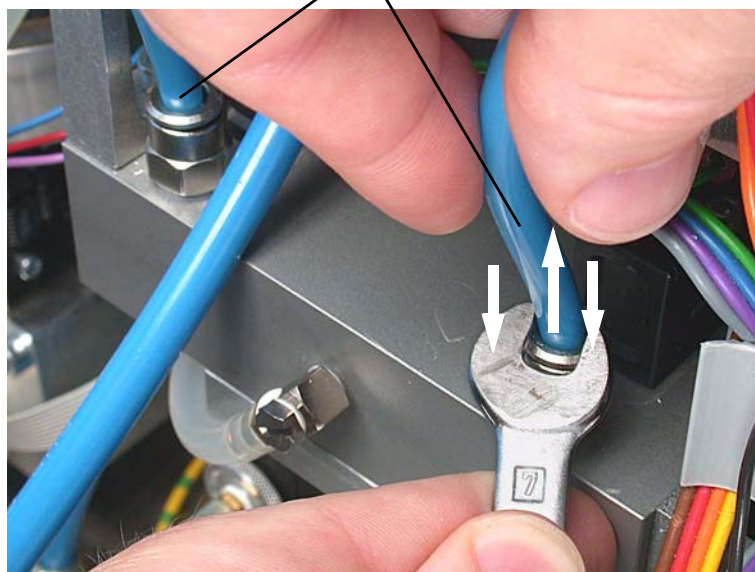

Figure 11-190. Removing one of the oxygen cell solenoid valve connections
5. Remove from the mixer block, the two blue tubes that connect to the oxygen cell solenoid valves. To do this, push down on the inner collar of the connector with a suitable spanner, while pulling up the blue tubing. (Figure 11-190.)